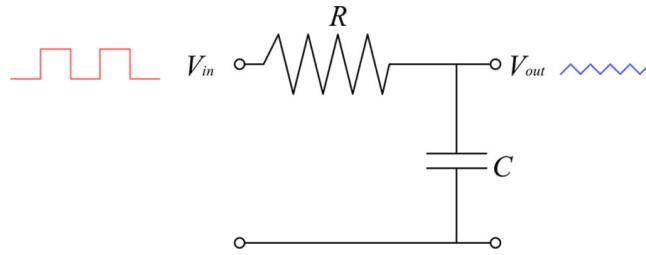

Figure 24: A typical low pass filter implemented with a resistor and a capacitor
An output square wave generated with the PWM technique can be filtered to generate a smoothed signal, that is an analog signal that has a reduced *peak-to-peak* voltage (V_{pp}). A *Resistor-Capacitor* (RC) *low-pass* filter (see **Figure 24**) is able to cut-off all those AC signals having a frequency higher than a given threshold. The general rule of thumb of RC low-pass filters is that the lower is the cut-off frequency the lower is the V_{pp}^{34} . An RC low-pass filter uses an important characteristic of capacitors: the ability to block DC currents while allowing the passing of AC ones: given the R/C time constant formed by the resistor-capacitor network, the filter will short to ground those AC signal with a frequency higher than the RC constant, allowing to pass DC component of the signal and lower frequency AC voltages.